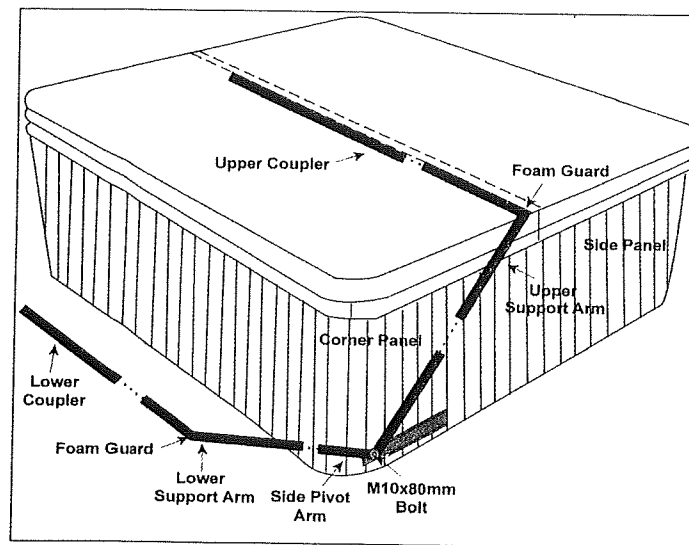

Figure 5
5. The Upper Support Arm will also use the Foam Guards to protect corners. Install the same way as in step 4. Now insert the the Upper coupler into the the Upper Support Arm and the other end of the Upper Support Arm into the long end of the Pivot Arm as shown in Figure 5. Do the same on the other side. Now the coverlift should be all assembled but adjustable.